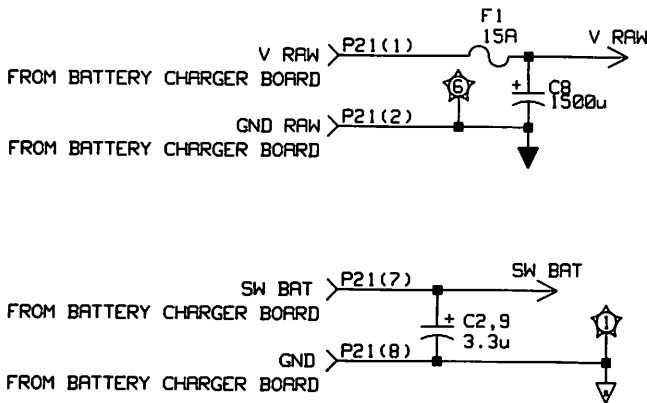

Figure 2-14. Power Conditioning Circuit.
2.23. POWER CONDITIONING CIRCUIT, (Figure 2-14)